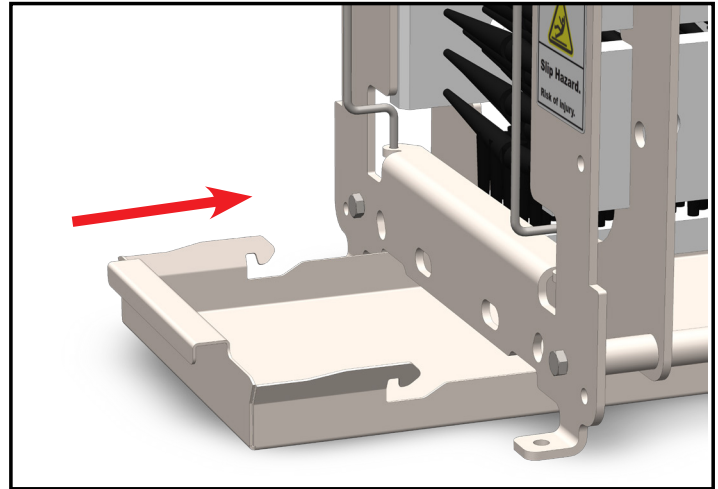

Fig. 4.1: Inserting Debris Tray
1. Place the Debris Tray at the opening of the unit and insert it underneath the frame. [Figure 4.1]